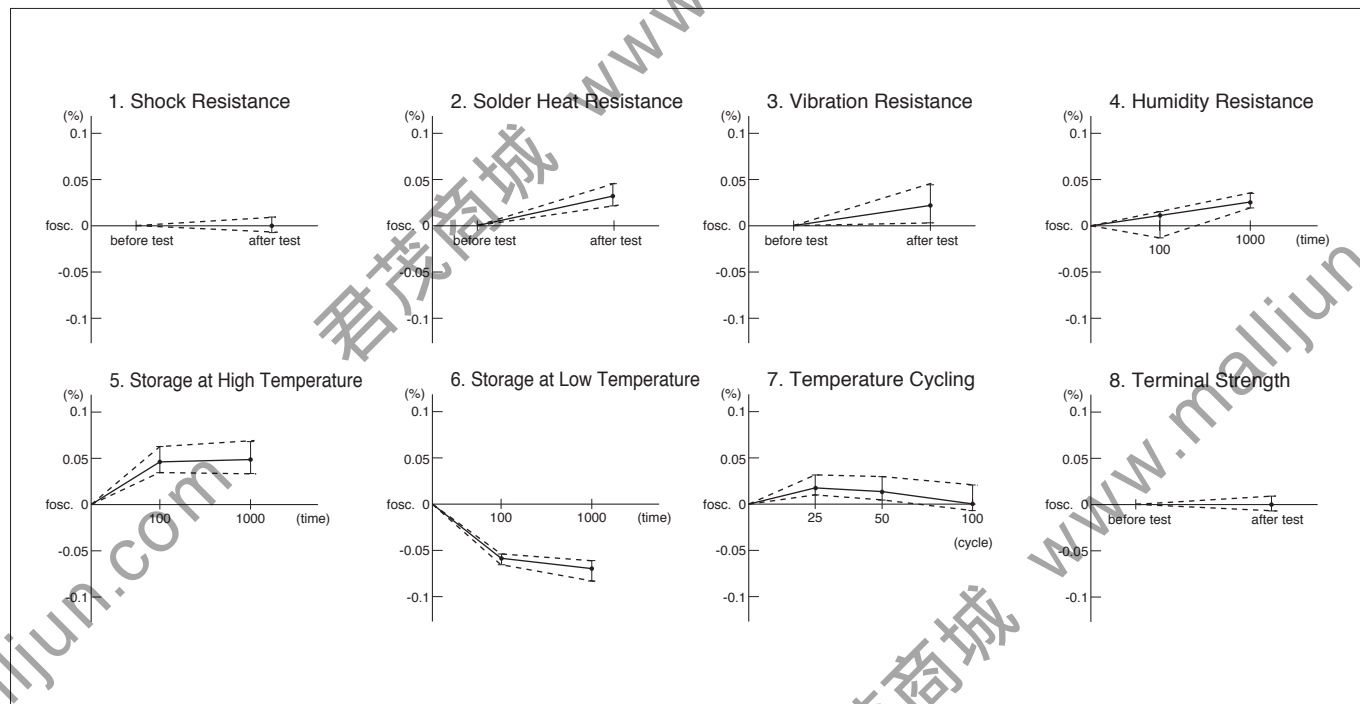
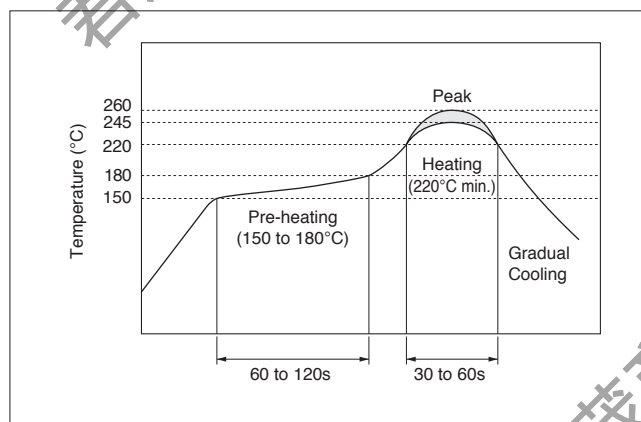

Fig. 3-2 General Changes of Oscillation Frequency in Each Reliability Test (CSTLS4M00G53-B0)
Fig. 3-3 Reflow Soldering Profile for MHz Band Chip CERALOCK®
The tables show the standard test conditions of mechanical strength and environmental specifications of CERALOCK®. Fig. 3-2 shows the changes of oscillation frequency in each test, the table on the next page shows the criteria after the tests, and Fig. 3-3 shows the reflow soldering profile.
2. Soldering Heat Resistance	Lead terminals are immersed up to 2.0 mm from the resonator's body in solder bath of [c], and then the resonator shall be measured after being placed in natural condition for 1 hour. ^{*1} Reflow profile show in Fig. 3-3 of heat stress is applied to the resonator, then the resonator shall be measured after being placed in natural condition for 1 hour. ^{*2}